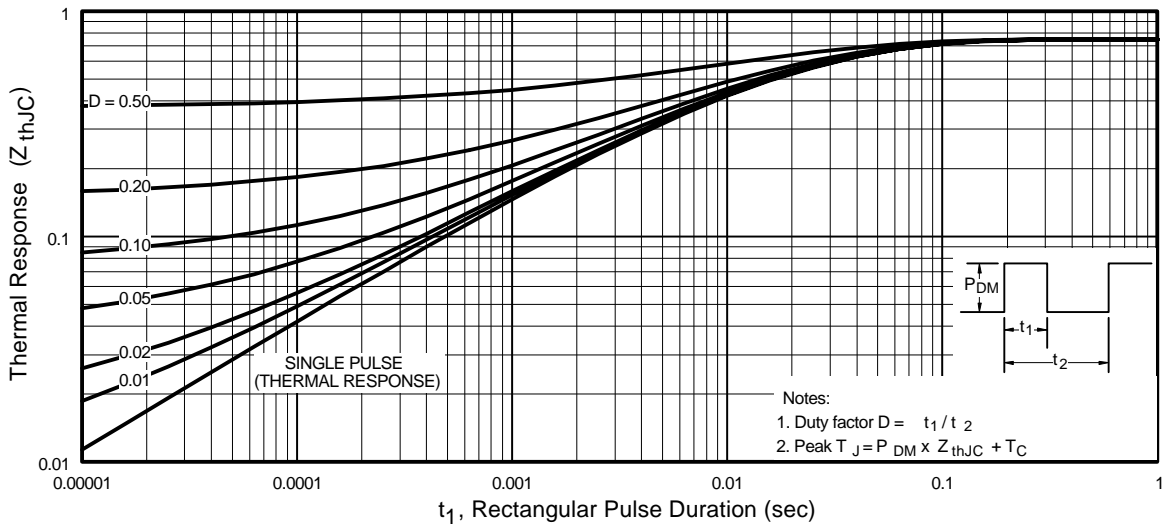

Fig 11. Maximum Effective Transient Thermal Impedance, Junction-to-Case
① Repetitive rating; pulse width limited by max. junction temperature. (See fig. 11)
② $V_{DD} = 25V$, starting $T_J = 25^\circ\text{C}$, $L = 240\mu H$